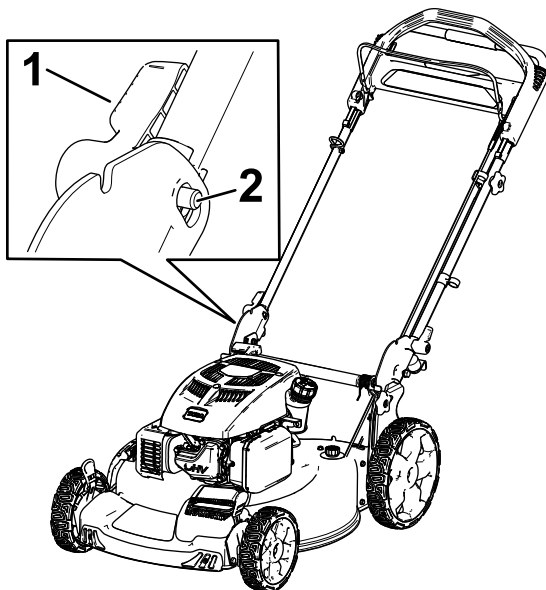

Figure 5
2. Set the handle lock (Figure 5) until the pin clicks in place to lock the handle into the operating position.